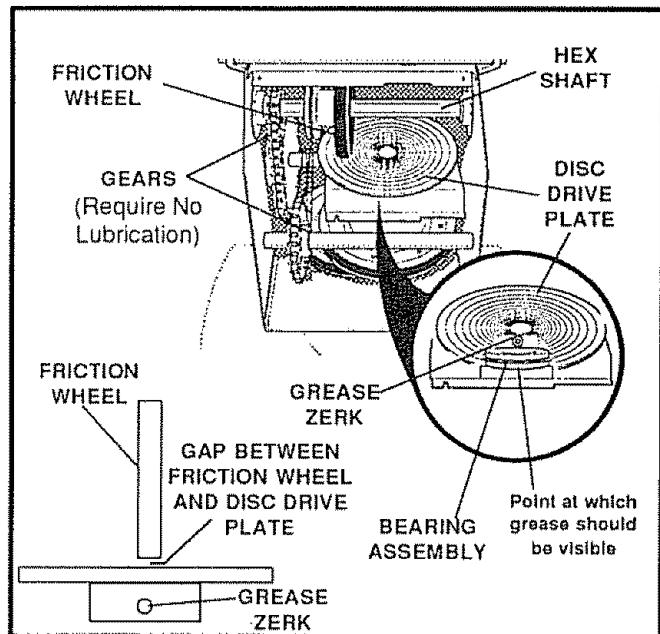

FIG.17
- Disc Drive Plate - Using a hand grease gun, lubricate with a Hi Temp EP Moley grease, zerk located beneath the disc drive plate (see Fig. 17 inset) every 25 hours and at the end of the season and/or before storage. To grease zerk, turn disc drive plate clockwise by hand until zerk is clearly visible at front center. DO NOT over fill or allow grease to come in contact with the disc drive plate or friction wheel or damage will result. Fill zerk only until grease becomes visible below bearing assembly located under grease zerk. See Lubrication Chart on page 25
- Hex Shaft and Gears - Hex shaft and gears require no lubrication. All bearings and bushings are lifetime lubricated and require no maintenance (See Fig 17)
**NOTE:** For storage, the hex shaft and gears should be wiped with 5W-30 motor oil to prevent rusting (See Fig 17)